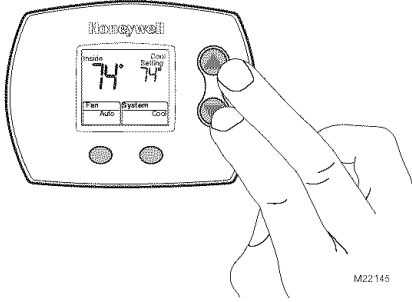

Fig. 19. Enter Installer System Test.
1. Enter the Installer System Test by pressing and holding down the Up and Down buttons at the same time for approximately five seconds, until the screen changes. See Fig. 19.